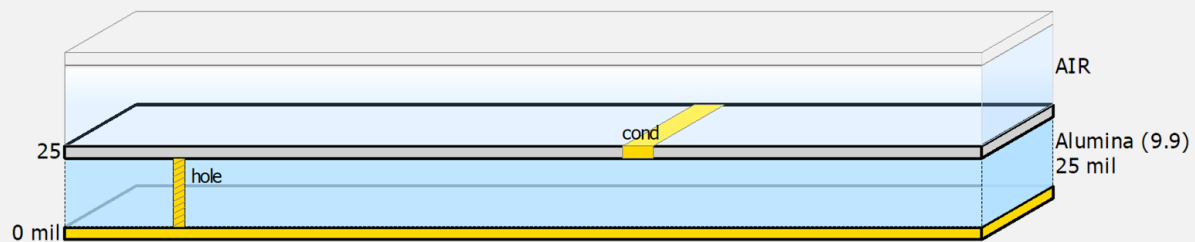

Figure 38. Substrate overview
4. Create a substrate using the 25 mil Alumina template, with **Er = 9.9** and **TanD = 0.0009**. Define the conductor layer as Gold with **conductivity of 4.1E7** and **thickness of 0.7 mil**. The “hole” layer will also have Gold conductivity as shown in Figure 38.